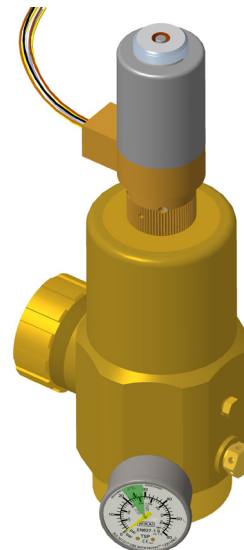

FIGURE 6-12
3. Carefully screw the actuator to the valve assembly. See Figure 6-12.